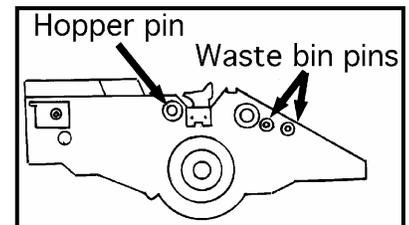

Figure 3
6. Rotate the cartridge to the other end and remove the two pins holding the waste bin in place and the one pin holding the hopper in place (Fig 3).